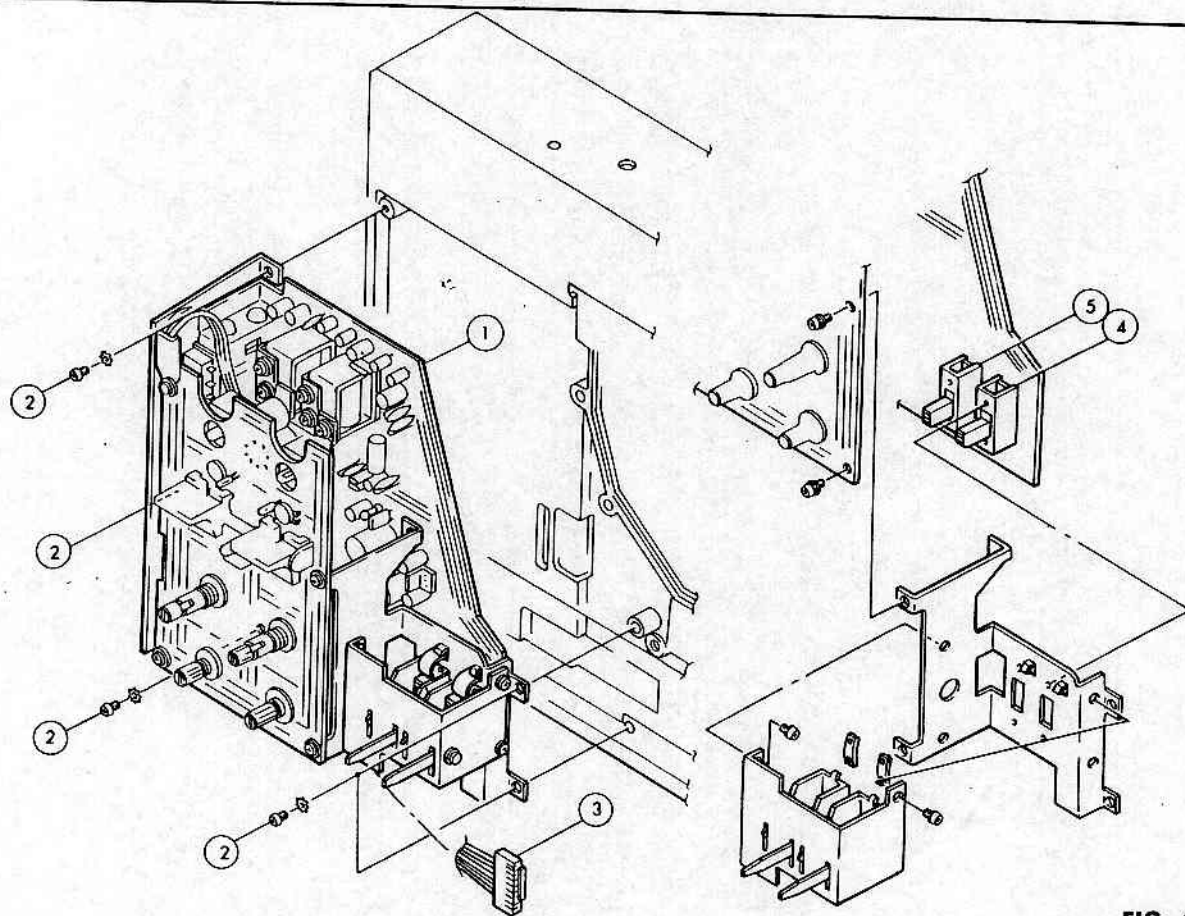

FIG. 45
TROUBLESHOOTING: (Refer to Fig. 45)
1. Unscrew the (2)x4 and pull out the (3) after cut a beaded binder. The toothed lock washers are used under the (2).
2. Remove the (1), pulling it toward you. Note that the (1) is connected to the projector with connector.
3. For further disassembly, refer to Fig. 45.